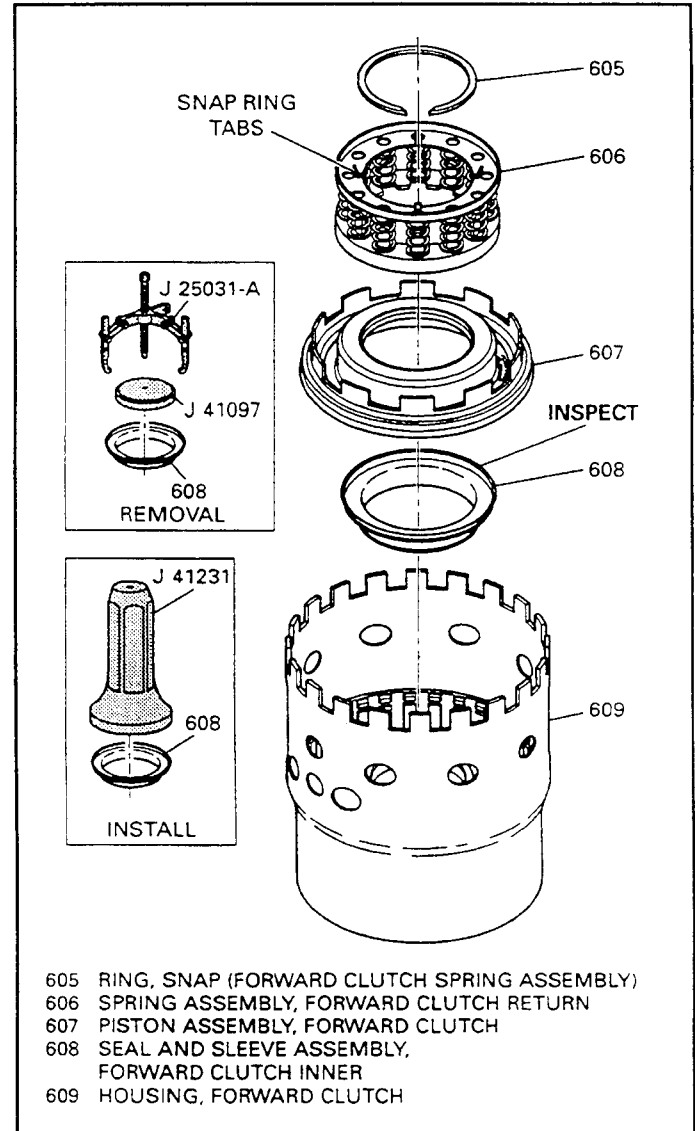

Figure 114
2. Inspect the forward clutch inner seal assembly (608) for any damage (See Figure 114).
3. If the seal is damaged, remove the seal using removal tools J-41907 and J-25031-A, shown in Figure 114.
4. Press a new inner seal assembly onto forward clutch housing inner hub using an arbor press and tool J-41231 (See Figure 114).
6. Lubricate all seal surfaces with "Trans-Jel" and install the forward clutch piston (607) into the forward clutch housing with a twisting motion (See Figure 114).
7. Install the forward clutch return spring Asm. on top of the forward clutch piston with the snap ring tabs facing up as shown in Figure 114.